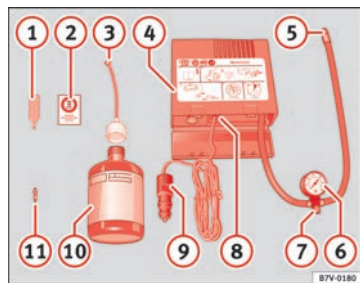

Fig. 152 Standard representation: contents of the tyre mobility set.
The tyre mobility set is located underneath the floor covering in the luggage compartment. It includes the following components ⇒ Fig. 152:
- Use the enclosed extractor to unscrew the valve insert ⇒ Fig. 152 ① and place the valve insert on a clean surface.
- Vigorously shake the sealant bottle ⇒ Fig. 152 ⑩ for several seconds.
- Screw the inflator tube ⇒ Fig. 152 ③ securely into the sealant bottle in a clockwise direction. The seal on the mouth of the bottle moves automatically.
- Remove the lid from the filling tube ⇒ Fig. 152 ③ and screw the open end of the tube into the tyre valve.
- Screw the valve insert again with the corresponding tool ⇒ Fig. 152 ① into the tyre valve.
- Securely screw the tyre inflator tube ⇒ Fig. 152 ⑤ of the compressor into the tyre valve.
- Check whether the air bleed screw ⇒ Fig. 152 ⑦ is closed.
- Attach the connector ⇒ Fig. 152 ⑨ to a 12 volt socket of the vehicle ⇒ page 114.
- Connect the air compressor with the ON/OFF switch ⇒ Fig. 152 ⑧.
- Keep the air compressor running until it reaches 2.0 to 2.5 bar (29-36 psi / 200-250 kPa) ⇒ ⚠. **Maximum operation time 8 minutes** ⇒ ⑩.
Screw the inflator tube ⇒ Fig. 152 ⑤ again and check the pressure on the gauge ⑥.